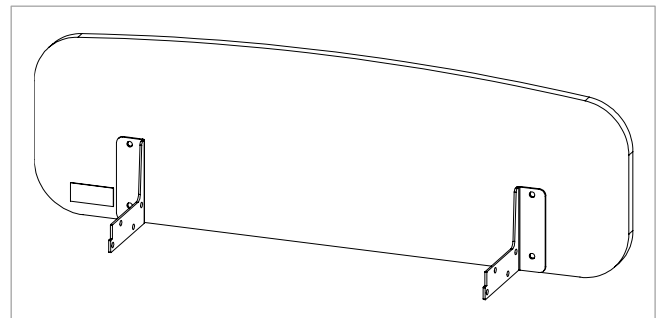

Figure 8.5
11. Position the brackets on the footboard as Figure 8.5 – note the orientation of the brackets.